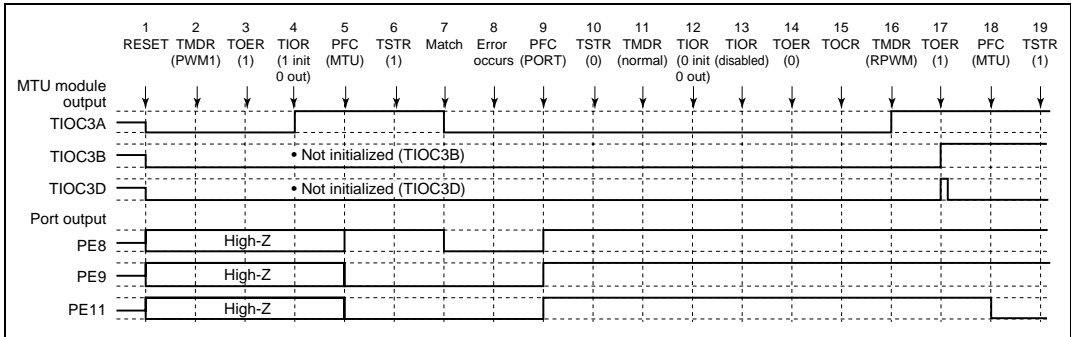

Figure 10.96 Error Occurrence in PWM Mode 1, Recovery in Reset-Synchronous PWM Mode
(12) Operation when Error Occurs during PWM Mode 1 Operation, and Operation is Restarted in Reset-Synchronous PWM Mode: Figure 10.96 shows an explanatory diagram of the case where an error occurs in PWM mode 1 and operation is restarted in reset-synchronous PWM mode after re-setting.